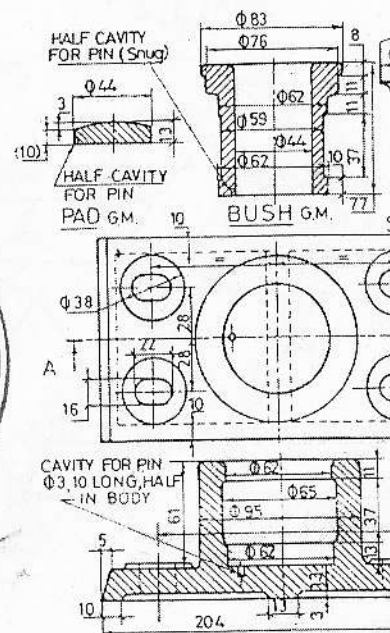

Fig. 1 Details of a Foot Step
6. Fig. 1 shows the details of a Foot Step Bearing of the assembly and simple plan.